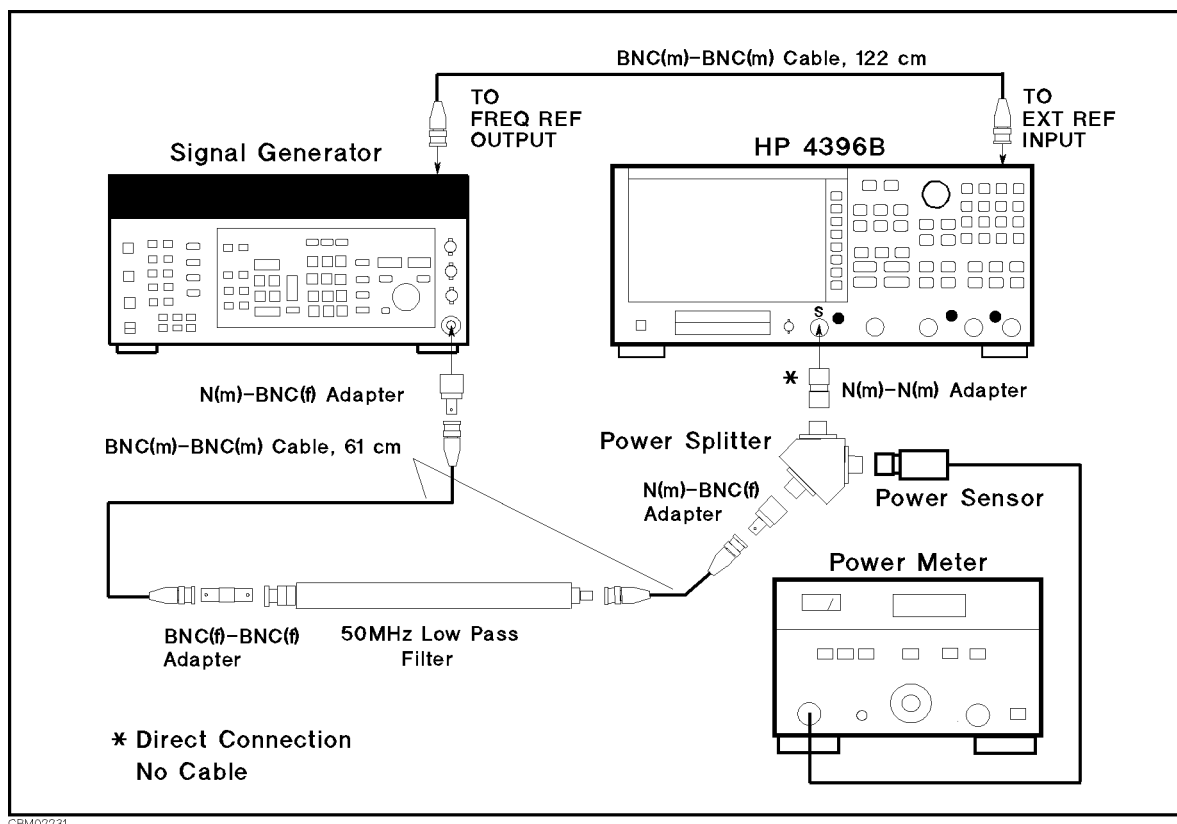

Figure 2-29. Second Harmonics Distortion Test Setup
2. Connect the test equipment as shown in Figure 2-29.
Note	Connect the signal generator's 10 MHz frequency reference output to the 4396B EXT REF Input on the rear panel as shown in Figure 2-29. With this configuration, both the signal generator and the 4396B are phase locked to the same reference frequency to obtain a stable measurement.